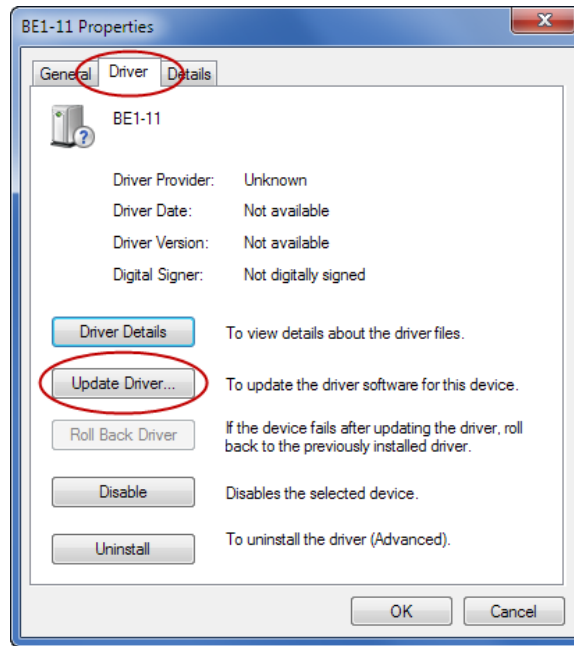

Figure 79-3. BE1-11 Properties
- Step 3. In the Properties windows, select the Driver tab and click Update Driver. See Figure 79-3.